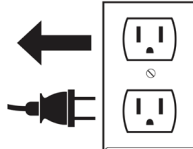

**FIGURE 34**
57. Accessories may be stored in the accessory caddy. The hose may be stored in the hose holder. To do this, place one end of the hose between the hose holder posts and the tank bottom. Wrap the hose around the tank bottom keeping the hose tucked between the posts and the tank bottom. **FIGURE 34.** The vacuum should be stored indoors.